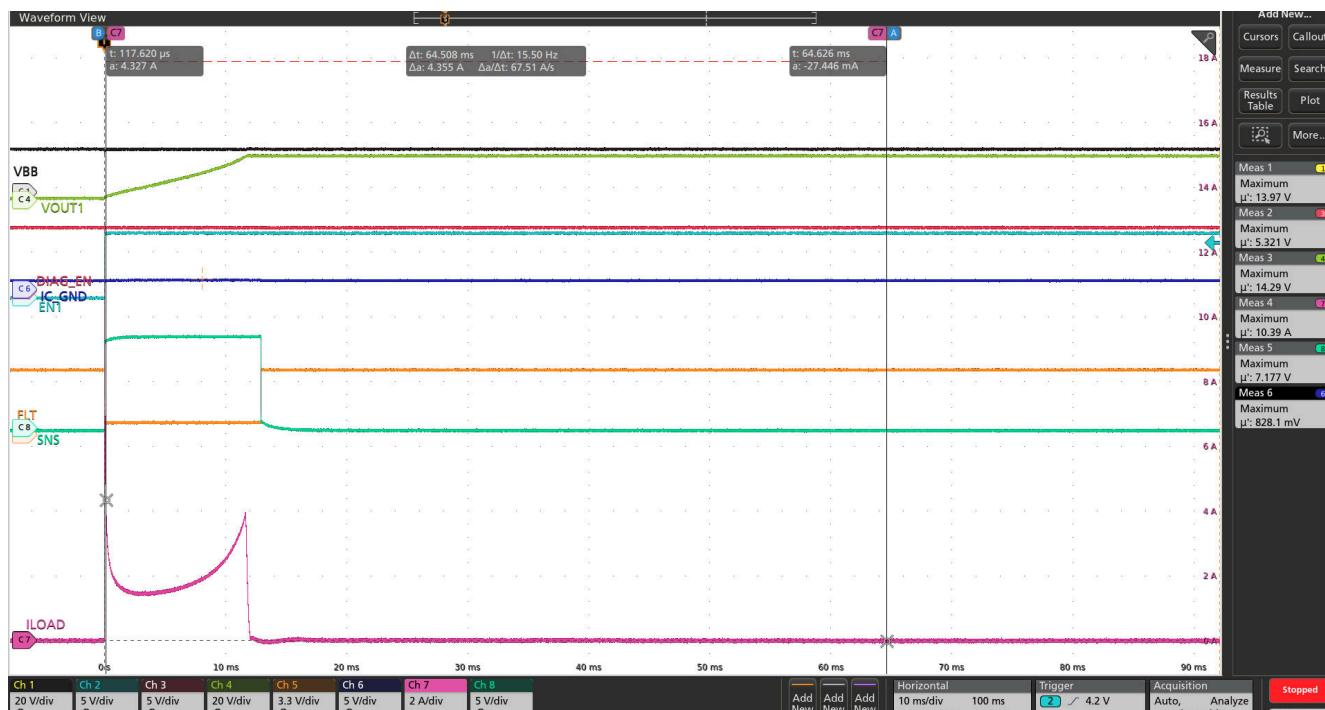

**Figure 8-31. 1mF Capacitive Load Charging with Channel 1 of TPS2HC08-Q1 Device at 13.5V VBB, ILIM Pin OPEN and 125°C Ambient Temperature (no load on channel 2)**
**Figure 8-30** and **Figure 8-31** compares the 1mF capacitive load charging at same conditions with device configured to minimum (ILIM pin OPEN) and maximum (ILIM pin shorted to ground (STG)) current limit setting. The lower current limit limits the inrush current while charging the 1mF capacitive load and provides clean startup of the load without triggering thermal shutdown.